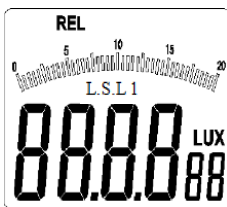

Fig. 3-1-2A
1. Give a short press on the key REL/PEAK (the composite key for relative value/peak value measurement), the word "REL" will appear at the upper left of the LCD screen (as shown in Fig. 3-1-2A) and the meter will enter the mode for relative value measurement;